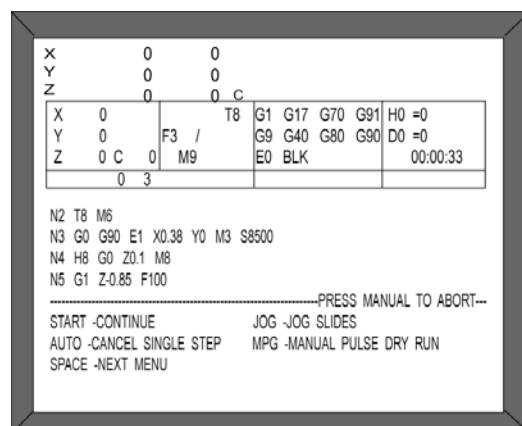

Figure 2-2: "BLK" is displayed when the BLOCK
Place the BLOCK SKIP switch in the upward position (ON) to activate the block skip code in the program. The control will display "BLK" in the third box bottom line of the position display (See Figure 2-2).